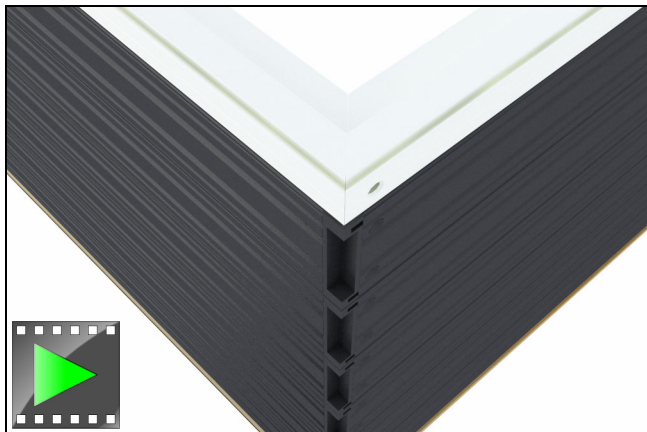

Figure 84
1. Align side jamb to head jamb. See figure 84.